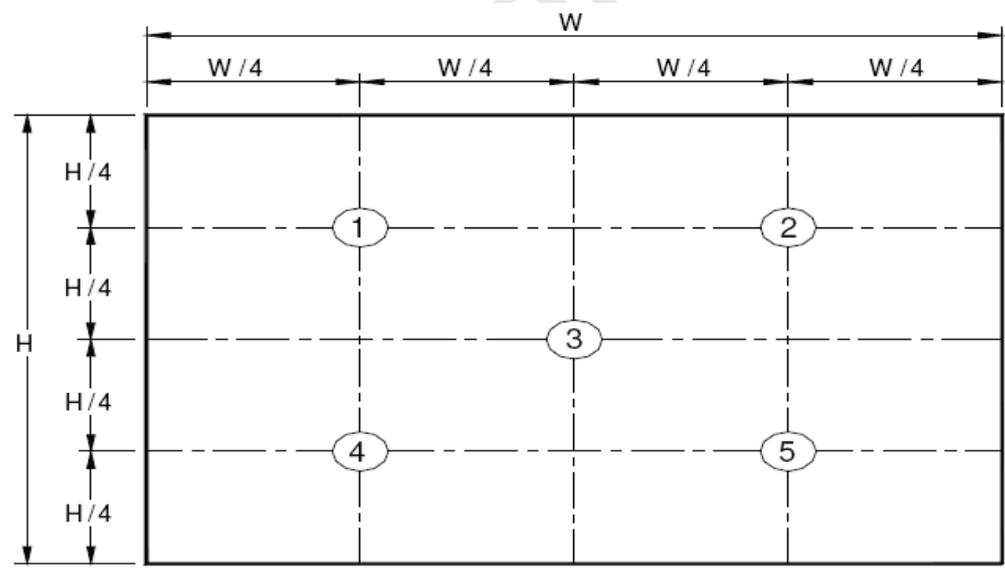
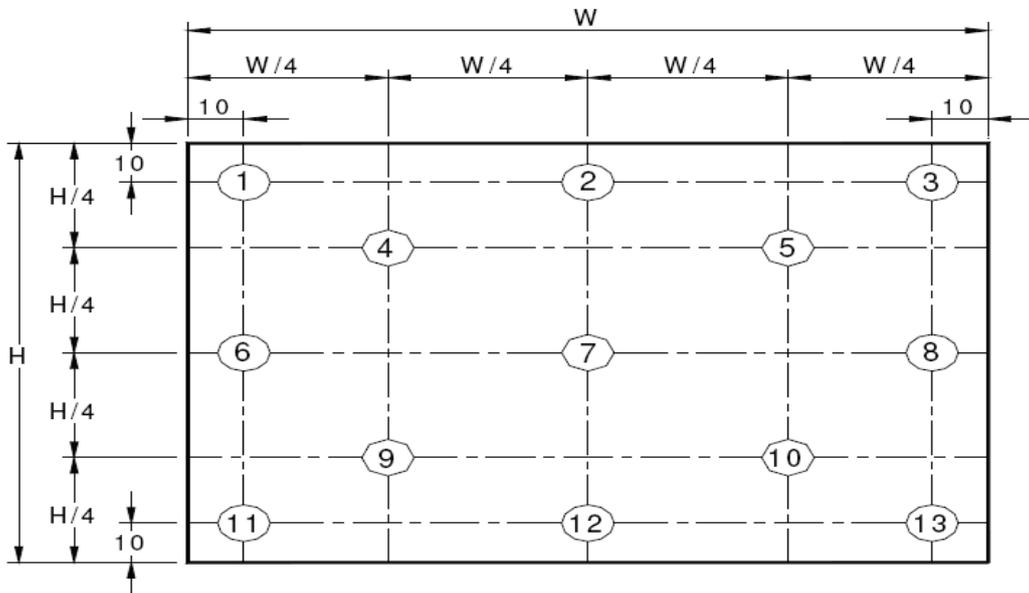

Figure 8. White Luminance and Uniformity Measurement Locations (5 points)
Figure 9. Uniformity Measurement Locations (13 points)
- Center Luminance of white is defined as luminance values of 5 point average across the LCD surface. Luminance shall be measured with all pixels in the view field set first to white. This measurement shall be taken at the locations shown in Figure 8 for a total of the measurements per display.
- The White luminance uniformity on LCD surface is then expressed as :  $\Delta Y = \text{Minimum Luminance of 5(or 13) points} / \text{Maximum Luminance of 5(or 13) points.}$ (see Figure 8 and Figure 9).
The White luminance uniformity on LCD surface is then expressed as :  $\Delta Y_5 = \text{Minimum Luminance of five points} / \text{Maximum Luminance of five points}$  (see Figure 8) ,  $\Delta Y_{13} = \text{Minimum Luminance of 13 points} / \text{Maximum Luminance of 13 points}$  (see Figure 9).